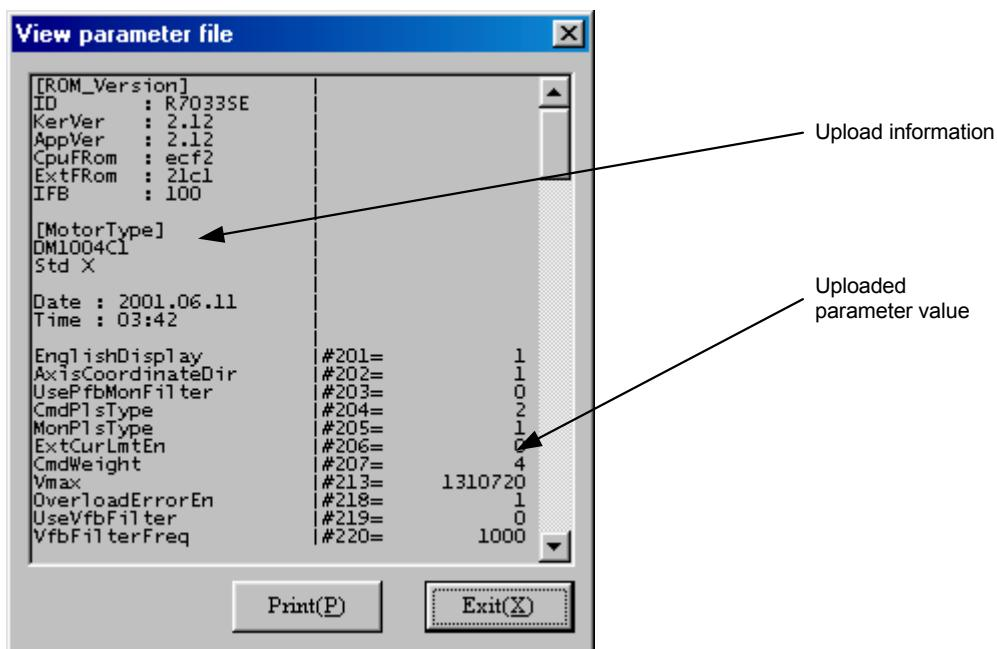

Figure 8.25 “Parameter file display” dialog box
- 1) Click “View file (V)” in the “Parameter Manager” dialog box.
- 3) Click “Open (O)” to begin displaying the file contents in the “Parameter file display” dialog box (see Figure 8.25).
- 4) If you want to print the file, click “Print (P).”
- 5) Click “Exit (X)” and return to the “Parameter Manager” dialog box.